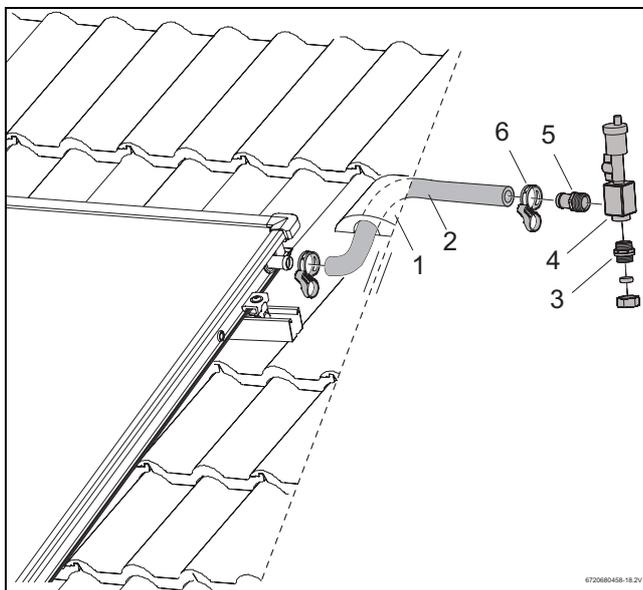

Fig. 51 Assemble the solar hose to the flow connection
- ▶ Fix the long solar hose (1000 mm, Fig. 51, [2]) to the flow connection of the collector array and secure with hose clip.
- ▶ Route the hose together with the probe cable along the ventilated tile (Fig. 51, [1]) and along the rooftop insulation.
- ▶ Tighten the hose end reducer R $\frac{3}{4}$  with the O-ring and the (Fig. 51, [5]) and the barrel nipple with the O-ring (Fig. 51, [3]) in the air chamber (Fig. 51, [4]).
- ▶ Push the hose end as far as it can go into the solar hose and fix with hose clip (Fig. 51, [6]).
- ▶ Connect the collector pipes to the locking ring threaded connection (Fig. 51, [3]).